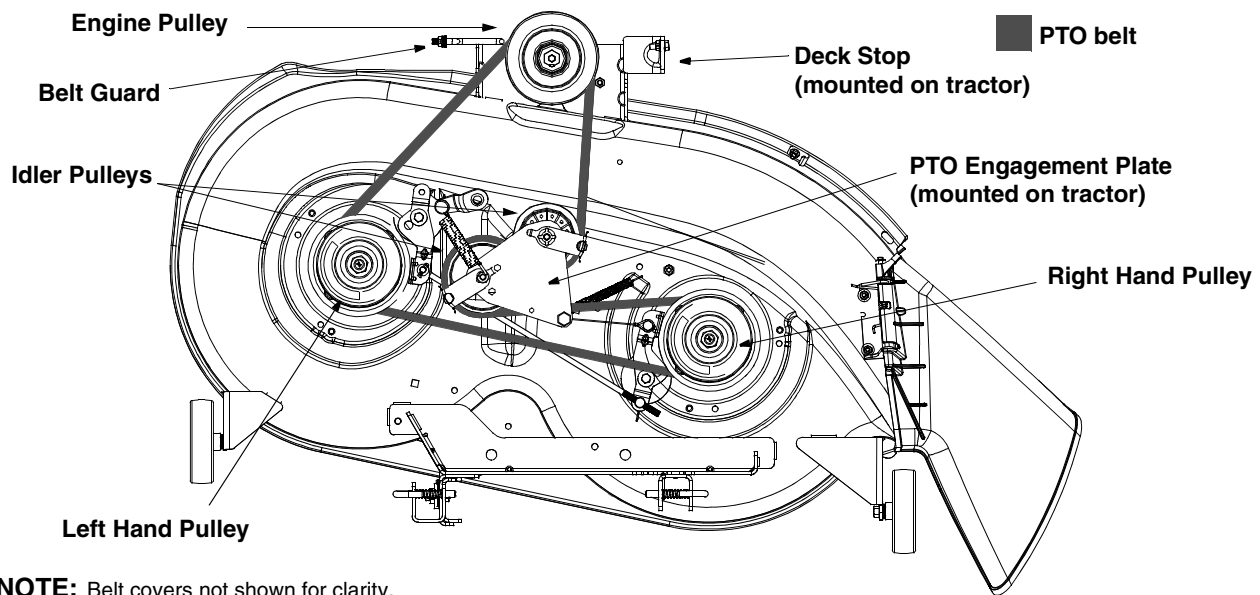

Figure 16
- Remove the PTO belt from around the bottom portion of the engine pulley and from around the two idler pulleys found on the PTO engagement plate. See Figure 16.
- Route the new belt as shown in Figure 16, around the deck pulleys, idler pulleys and engine pulley. OEM belt part numbers are listed in the table on the following page
- Locate the variable-speed pulley through the battery tray opening. See Figure 16.
- Remove the rear idler pulley from the double-idler bracket while unrouting the belt from around both the rear and the front idler pulley. Refer to Figure 16.
- Remove the drive belt by feeding it from both ends toward the front idler pulley on the double-idler bracket. See Figure 16.
- Reroute the new belt around the pulleys and belt keepers EXACTLY as the old one was routed. Refer to Figure 16.